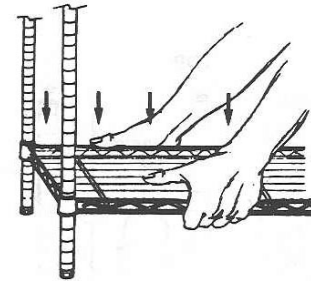

Figure 3
3. Once all four tubes have been slipped into a shelf, set the system upright, and press the bottom shelf firmly onto the clips (as in **Figure 3**).